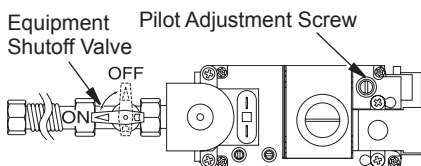

Figure 42 - Turning Equipment Shutoff Valve to the OFF Position
5. Turn equipment shutoff valve clockwise  to the OFF position (see Figure 42). Do not force.
6. Wait five (5) minutes to clear out any gas. Then smell for gas, including near the floor. If you smell gas, STOP! Follow "B" in the safety information in column 1. If you don't smell gas, go to the next step.
- Turn adjustment screw marked PILOT clockwise to decrease or counterclockwise to increase flame to proper size (see Figure 42, page 28). Do not remove adjustment screw.